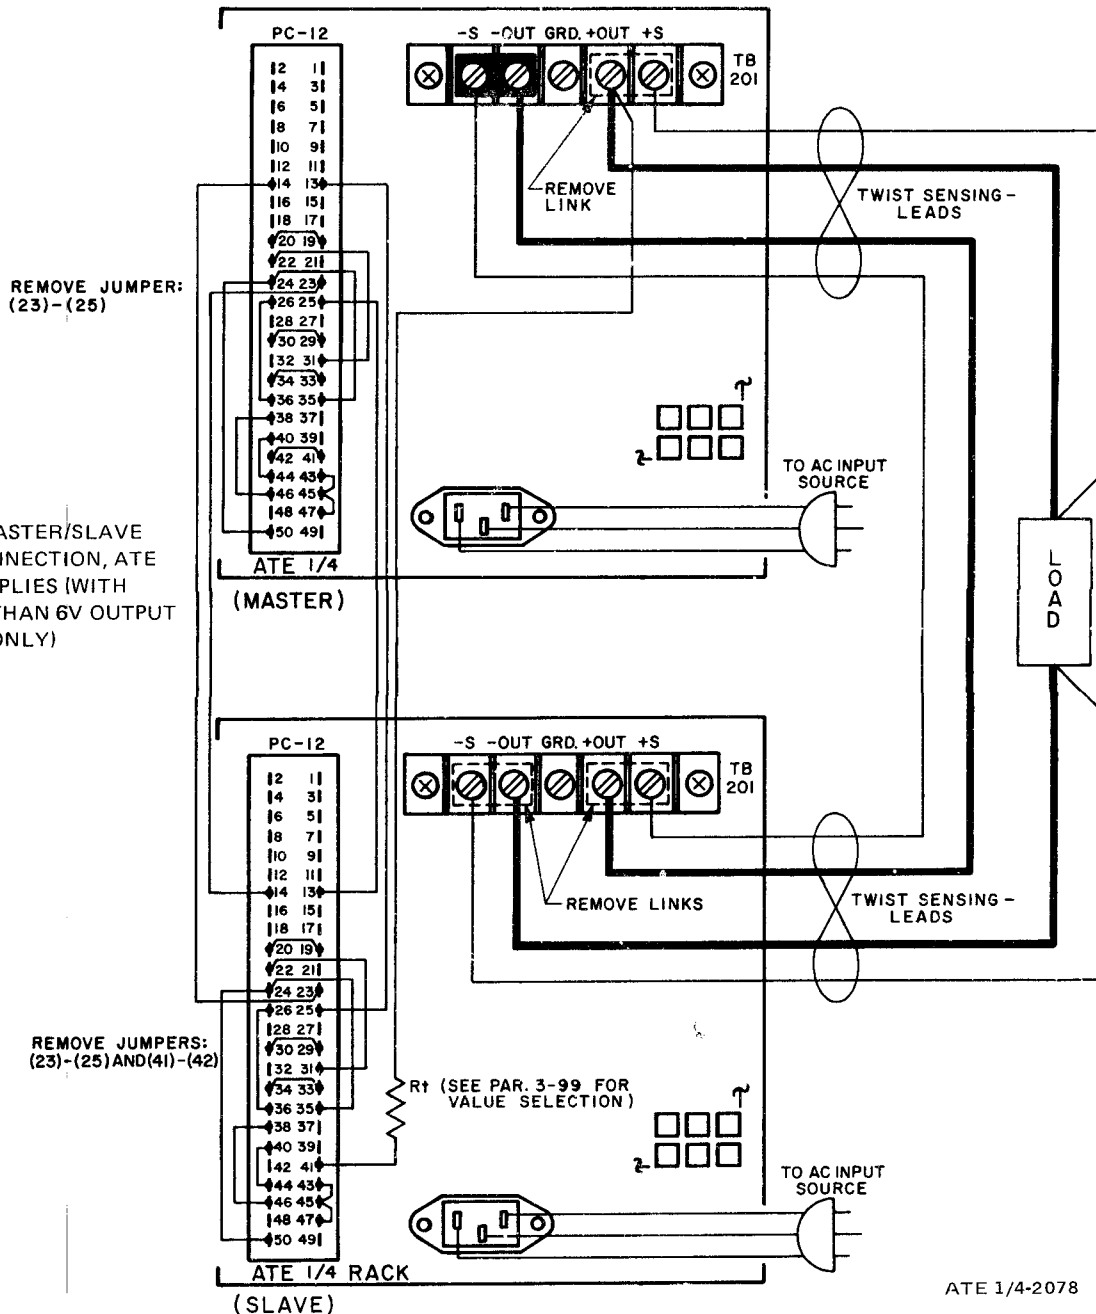

FIG. 3-22 MASTER/SLAVE SERIES CONNECTION, ATE POWER SUPPLIES (WITH GREATER THAN 6V OUTPUT VOLTAGE ONLY)
$R_t = \frac{55V}{1\text{mA}} - 10\text{K} = 45\text{K ohms}$ , and connecting the system as shown in FIG. 3-22 will produce the desired result.
- 3) Interconnect power supplies as shown in FIG. 3-22 Note: Only one SLAVE unit is shown, but more can be added. Turn MASTER supply VOLTAGE CONTROL to its maximum counterclockwise position.